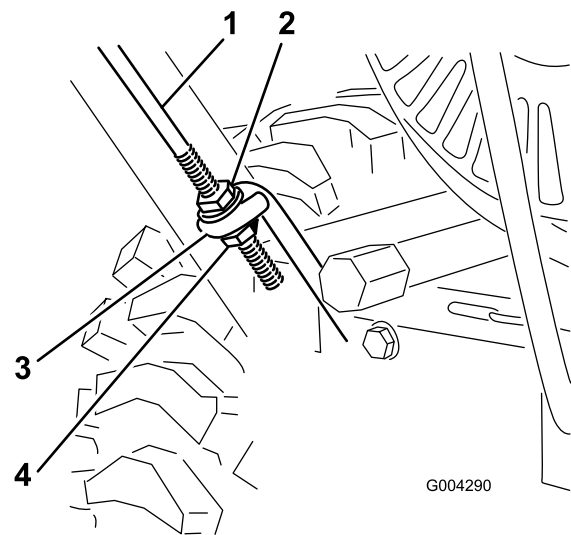

Figure 4
3. Thread a flange nut (not the flange locknut) with the flange down onto the traction rod attached to the left side of the handle (Figure 4).
4. Position the left side of the handle assembly against the side of the snowthrower and insert the end of the traction rod through the lower traction rod loop (Figure 4).
1. Thread the flange locknut (flange side up) onto the bottom of the traction control rod, below the loop in the lower traction rod (Figure 4).